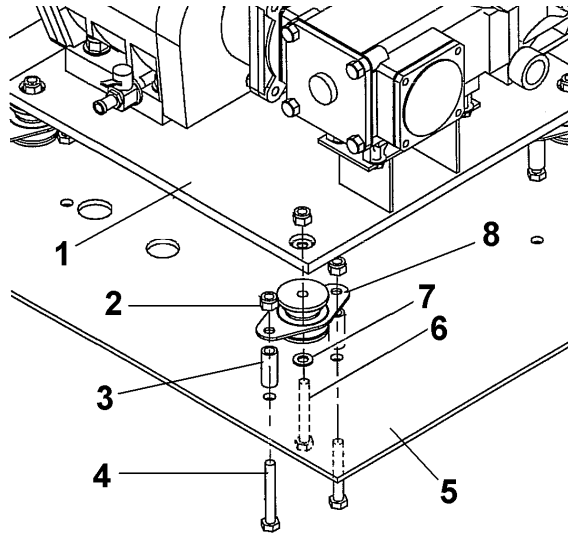

Figure 6. Vibration Mount Assembly.
1. Remove two nuts (2), bolts (4), and center bolt (6). See Figure 6.